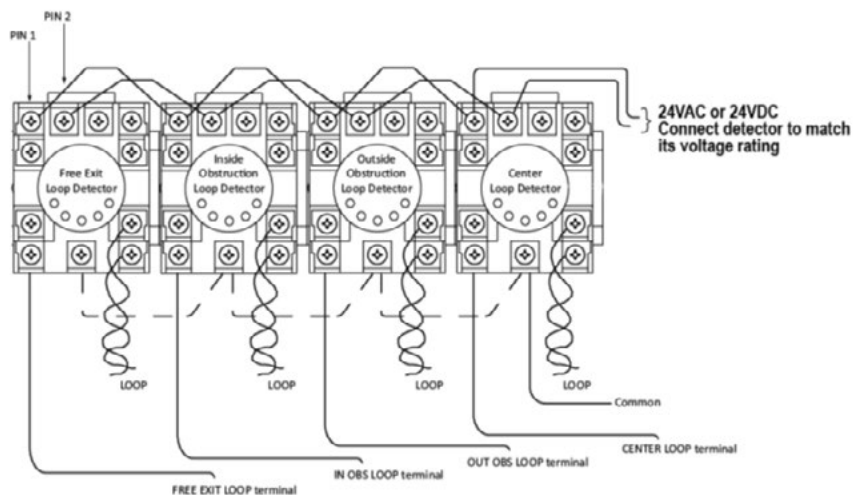

Figure 14. Standard 11-Pin Box Type Vehicle Detector
1. If there is sufficient space, install the sockets in the control box; if not, then install them in a separate external housing. Figure 14 is for general reference only.
4. If multiple detectors are used, route the power wires and common wire from socket to socket (daisy-chaining) rather than individually running each wire to the same location. See Figure 14. The only wires that are separate are the output wire to the SmartDC Controller and the detector loop input wires.